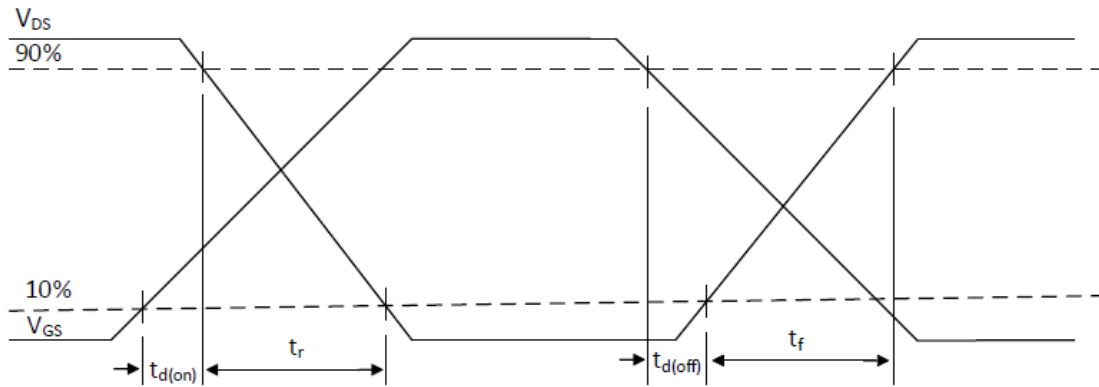

Figure 17: Switching Time Waveforms
- (8) See Figure 17 for switching time definition waveforms.
- (9) L_P = parasitic inductance.